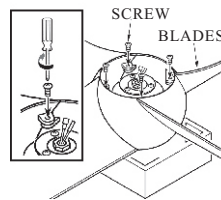

FIG. 6
4. Align the overlapped holes of the blades each other, and use the screws to fix them.(See fig.6)